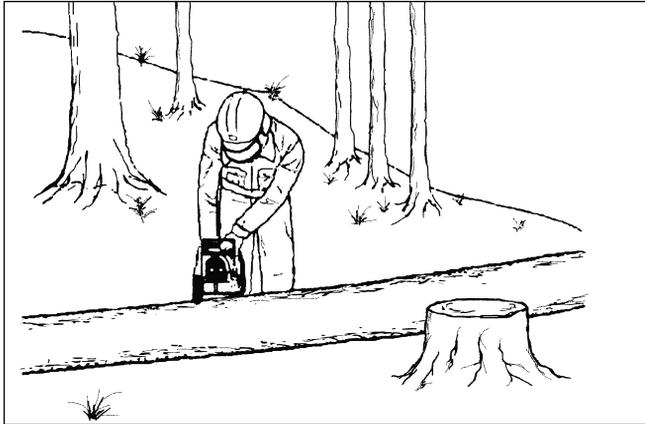

Fig. 7
3. Don't let the saw chain contact the ground (see **Fig. 7**).